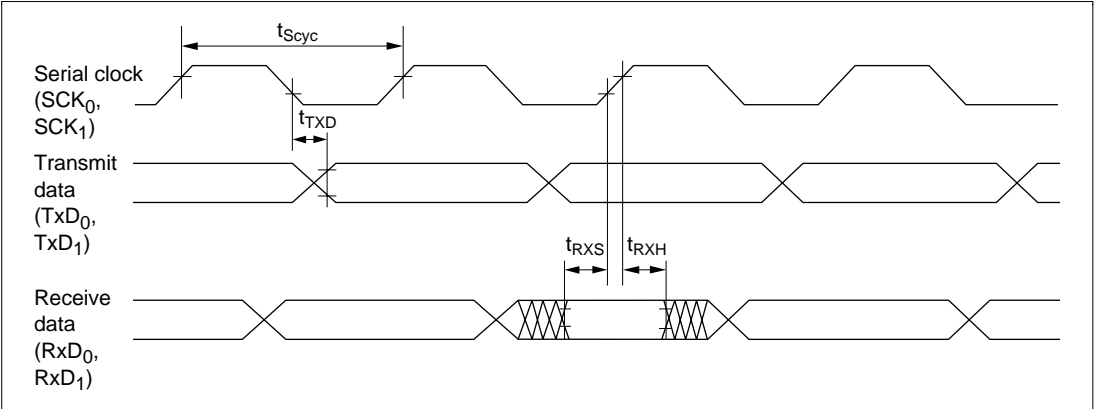

Figure 23.19 SCI Input/Output Timing (Synchronous Mode)
23.5.6 SCI Timing	Figures 23.19 and 23.20